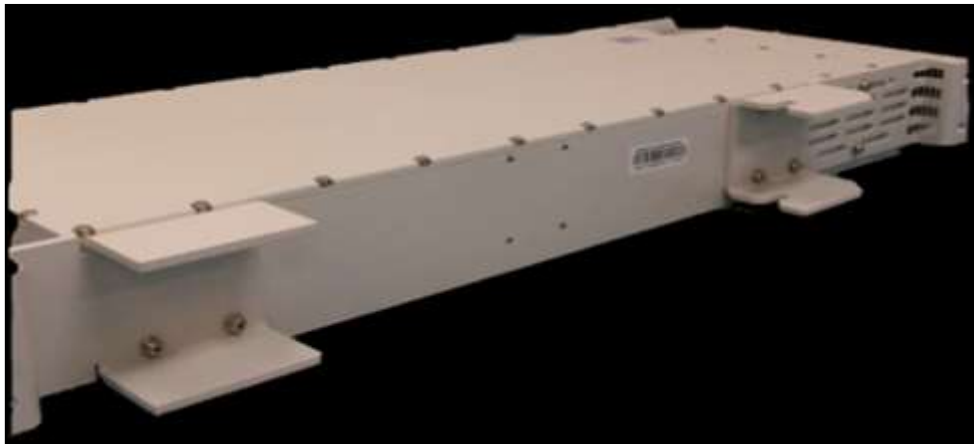

Figure 4-8. The Side Mounting Bracket to the Mounting Panel
1. Verify that the attached side mounting brackets, as shown in **Figure 4-8** are secure.